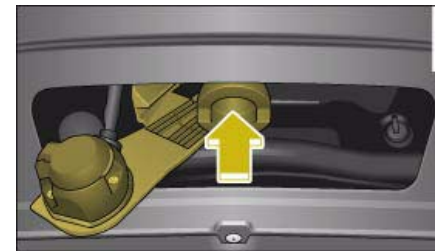

Fig. 197 Socket (folded down)
- Check that the mounting for the towing bracket, which will now have become visible -arrow- ⇒ fig. 197, is free of dirt, and clean if necessary ⇒ **!**